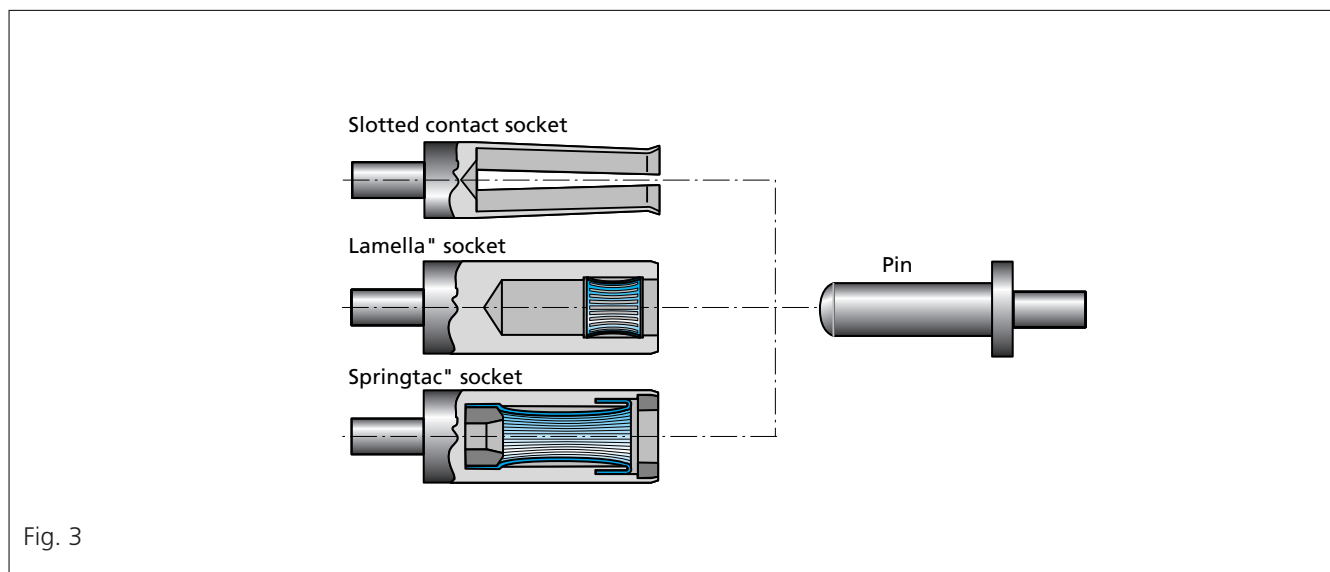

Fig. 3
The difference is only in the socket design. Pins are common to the three types of sockets. (Fig. 3).
**The springwire contact** (ODU-Springtac™) offers the largest number of contact points between pin and socket. The individual springwires are mounted in optimum position inside the socket carrier. The springwires make contact with the pin surface independently from each other ( see Fig. 3 and 6).